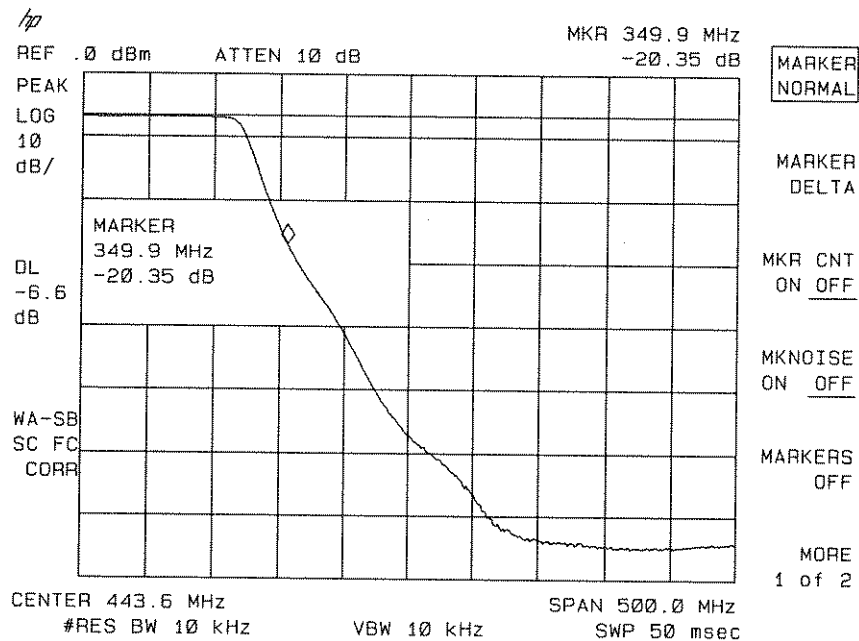

Figure 6-39. Measure the Rejection Range with Delta Markers
9. To measure the rejection of the filter at a given frequency, press **(MKR)**, and enter the frequency. For example, enter 350 MHz. The marker readout displays the rejection of the filter at 350 MHz (see Figure 6-39).